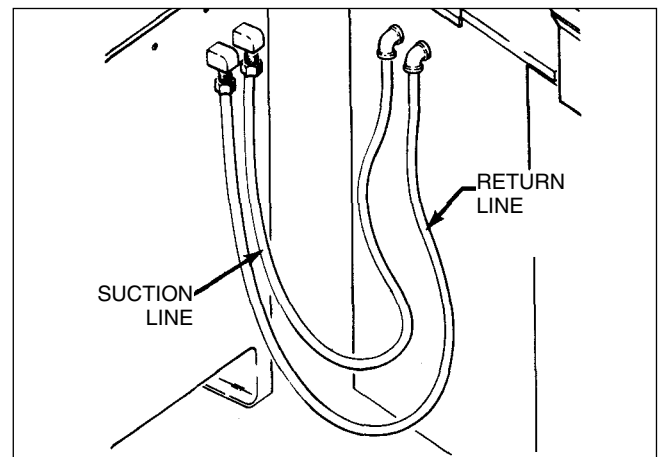

FIGURE 1-18, Coolant Line
21. Connect Dirty Oil Suction Line and Filtered Oil Return Line between Filter Unit and machine (*see Figure 1-18*). Use sealant on all threaded connections and tighten securely to prevent leaks.